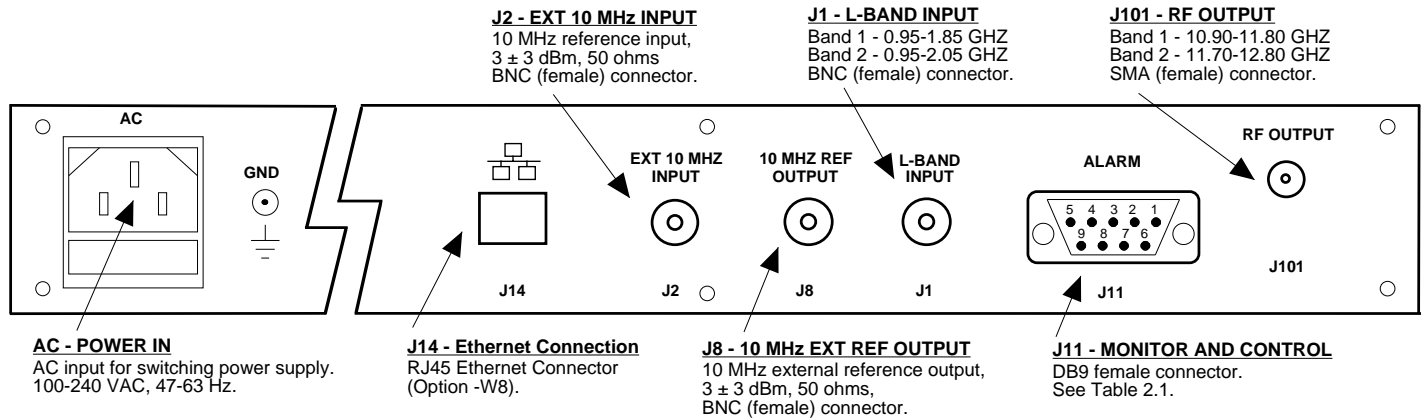

FIGURE 2.1 3115-21-109# Rear Panel I/O's
Figure 2.1 shows the input and output connectors on the rear panel.
1. Connect a -40 dBm to -20 dBm signal to RF IN, J1 (Figure 2.1).